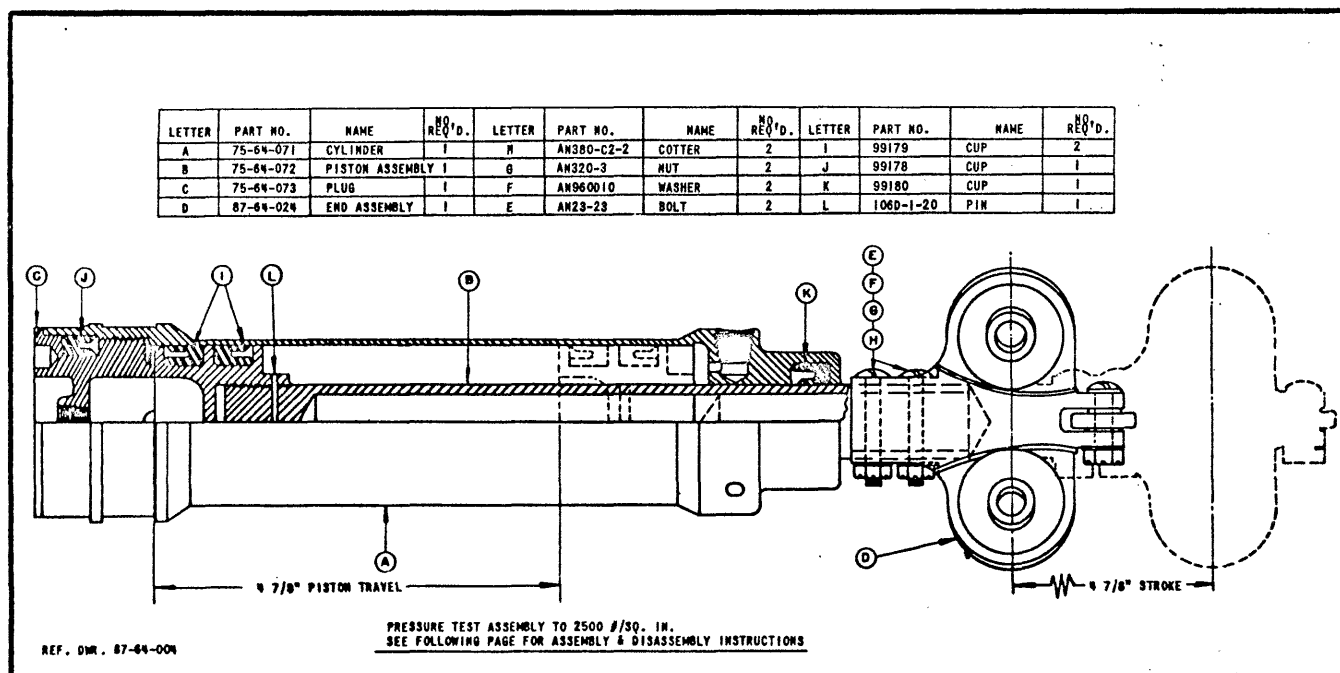

Figure 96 - Wing Flap Actuating Cylinder
(1) To Disassemble the Hydraulic Actuating Cylinder. - When the wing panel is separated at the center bulkhead, the flap actuating cylinder may be easily removed for inspection and disassembly. First disconnect the two hydraulic lines at the cylinder. (See figure 96.) Next remove the two bolts attaching the bell crank arms to the piston shaft end "D". Remove the four bolts in the clamp assemblies which attach the cylinder to the center bulkhead. Place the cylinder "A" in wooden block clamps and insert in a vice. If block clamps are not available, use a vice with aluminum or copper covered jaws. With cylinder "A" held firm, unscrew the end plug "C", using the spanner wrench (drawing 87-88-030), which is carried in the tool compartment of the duffle bag. Pull the two cotter pins "H" and unscrew the nuts